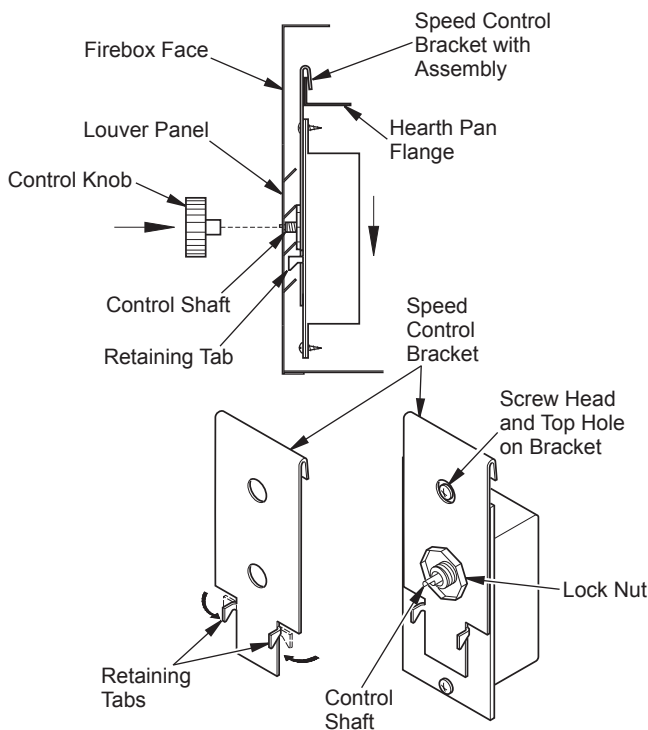

Figure 9 - Attaching Speed Control to Firebox with Stamp Faced Louvers (B36 and VB36 Models) Using Speed Control Bracket 109892-01
1. Using pliers, bend two retaining tabs on speed control bracket 90 degrees to front of bracket (see Figure 9).
2. Mount speed control box by placing plastic control shaft through bottom hole on speed control bracket. Top screw head on control box will fit inside top hole on bracket (see Figure 9). Secure speed control to bracket with lock nut by pushing and turning lock nut with pliers clockwise until it is tight against bracket.
4. Position speed control assembly over flange on hearth pan by sliding bracket up between the face and the flange, then down until the control shaft is aligned with the opening in the louver panel (see Figure 9).
5. Lock two retaining tabs onto lower louver by pressing down on bracket assembly while sliding control knob through rectangular opening on louver and onto the control shaft (see Figure 9).